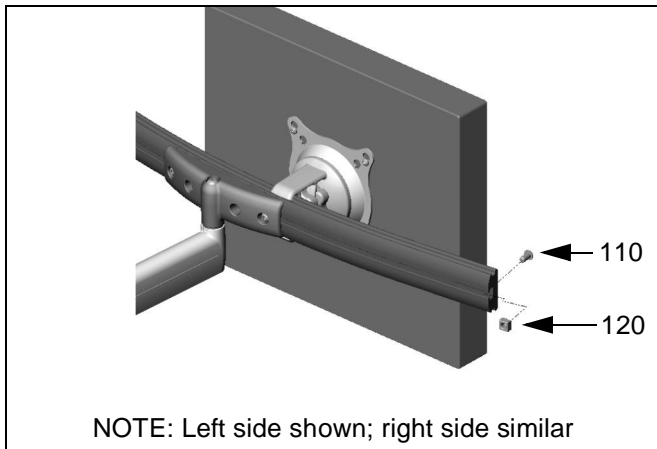

Figure 17: Install End Locks
7. Position the displays as desired and tighten the Centris head knob closest to the *array* (10). See "ADJUSTMENT" for additional information.
- Using 5/32" hex key, install screw (110) and nut (120) on each end of the array (10) to prevent displays from accidentally sliding off (See Figure 17).